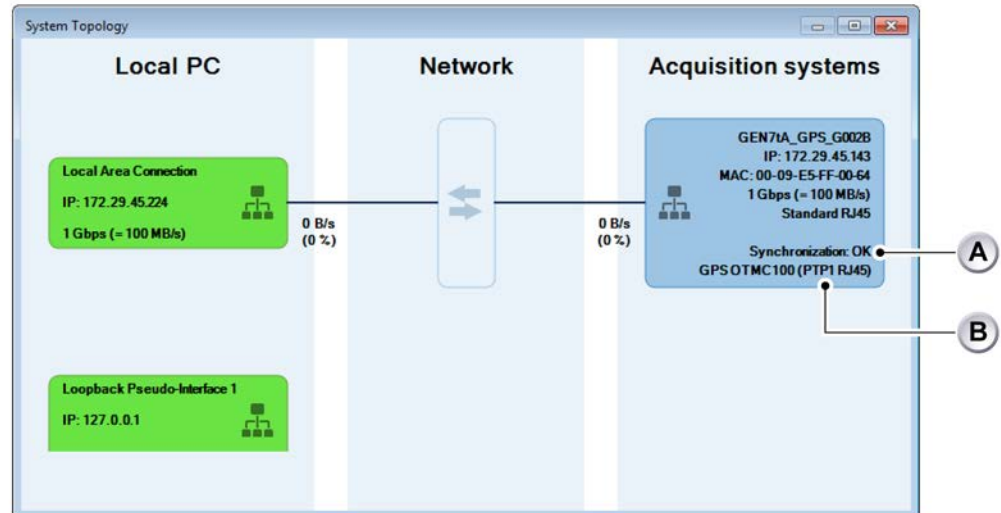

Figure 14.21: System Topology
2 The **System Topology** overview opens (see Figure 14.21):
- B** States that **GPS OTMC 100** is connected as selected (**PTP1 RJ45** for RJ45 connection as shown in Figure 14.21, **PTP2 SFP** if you are using the optical Ethernet connection).